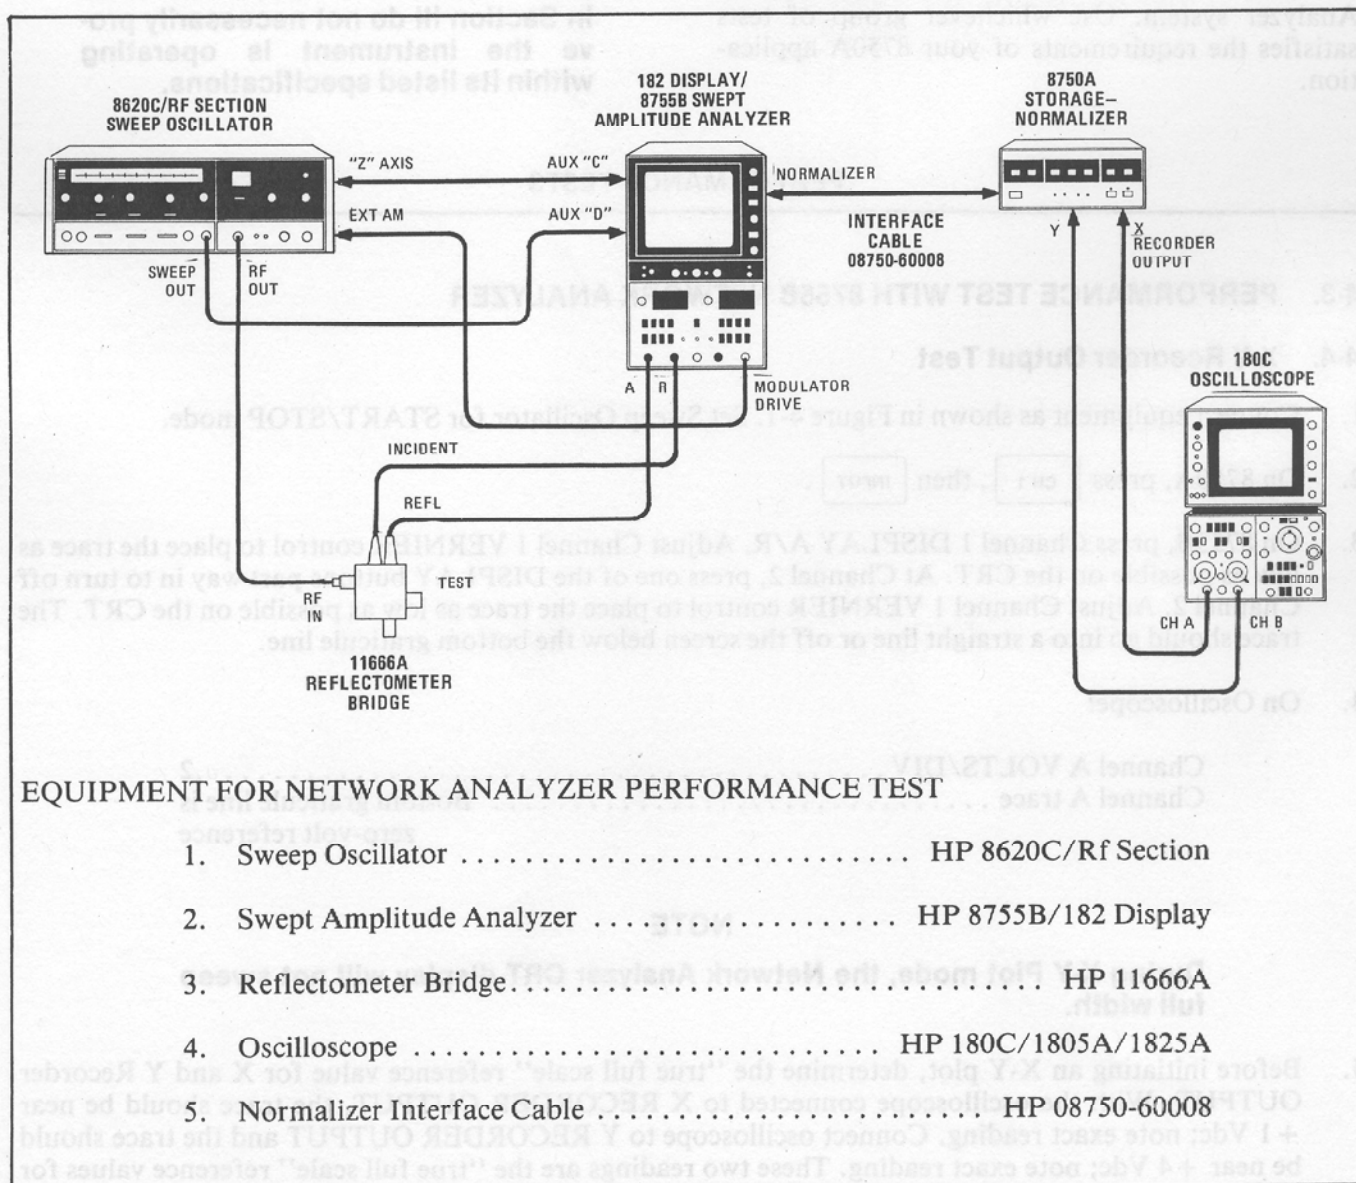

Figure 4-1. Typical Test Setup for 8750A Performance Tests Using a Network Analyzer
1. Connect equipment as shown in Figure 4-1. Set Sweep Oscillator for START/STOP mode.
1. Connect equipment as shown in Figure 4-1.
5-5. Before you start the adjustment procedures, you must set up the 8750A in either a Network Analyzer system as shown in Figure 4-1, or in a Spectrum Analyzer system as shown in Figure 4-2. The only equipment you will need beyond that in the system setup is an adjustment tool and an oscilloscope with a 10:1 test probe. (Recommended test equipment is listed in Table 1-4.)